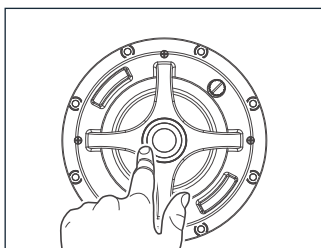

Figure 8:
- Pivoting tweeter assembly allows the treble to be directed to the most suitable location if the speaker is installed of-axis. To pivot the drivers apply light pressure to the ring around the outside edge of the tweeter cone. Take care not to touch or apply pressure to the cone itself (see Figure 8).